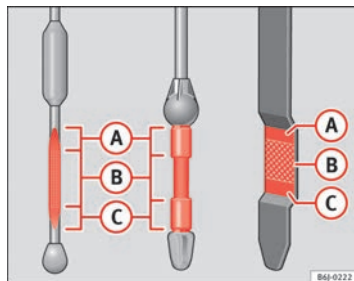

Fig. 144 Engine oil dipstick
- Then pull it out once more and check the oil level ⇒ fig. 144. Top up with engine oil if necessary.